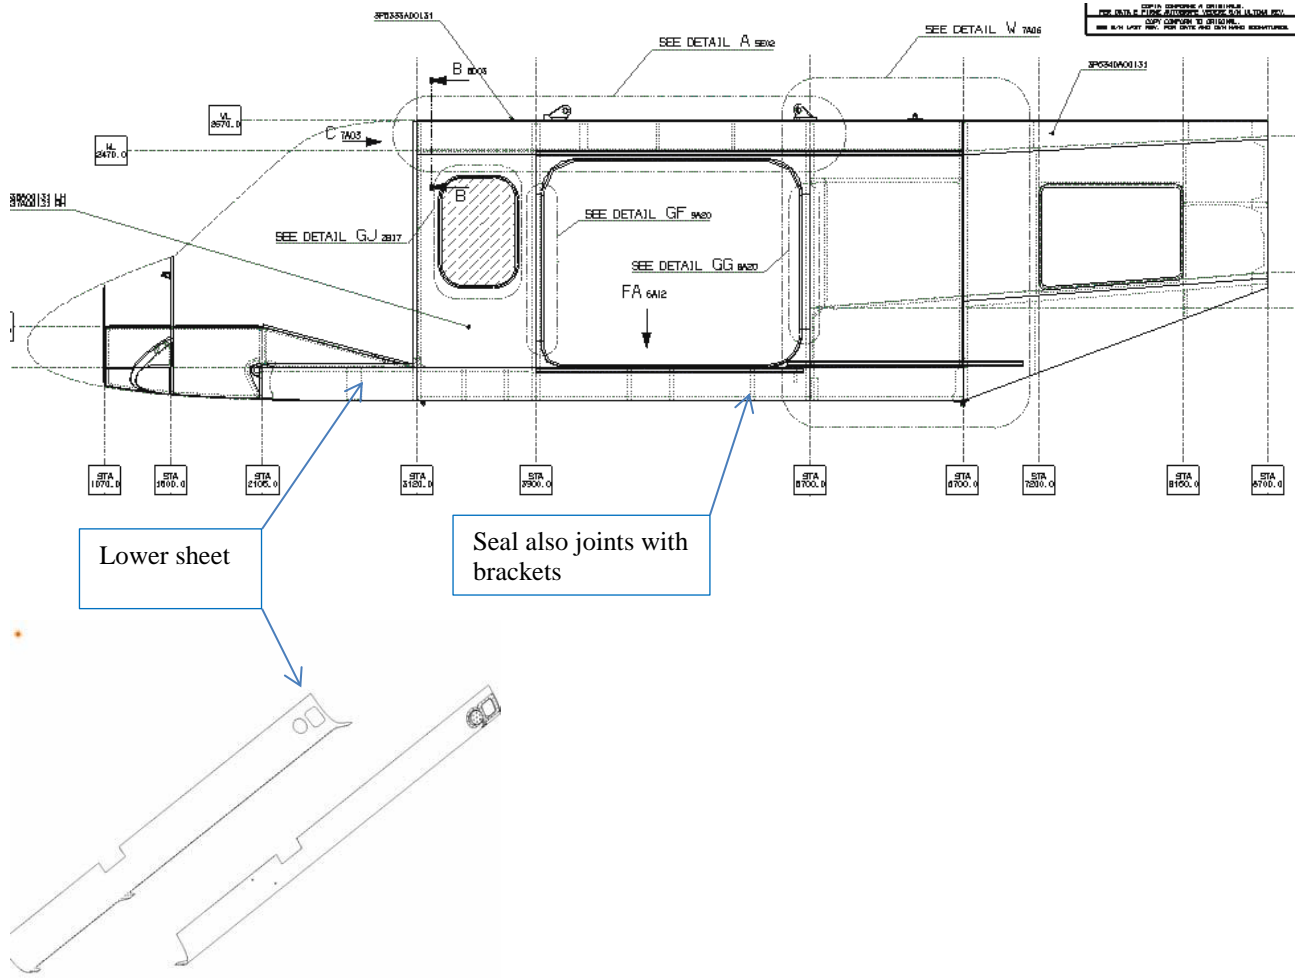

Figure A-3
- 1.3 all the joints related to lower skins (sealing is not needed in the area under the pax door due to the fact that the door frame overlaps the joint) - see Figure A-3;